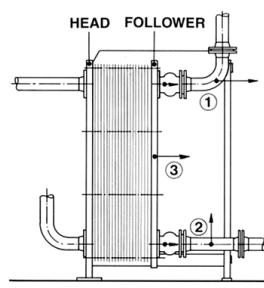

Fig. 12
Flanged connections must be removable. Fig. 12 shows a correctly connected unit. If necessary, a suitable filter should be installed on the fluid inlet. Insulating valves are also recommended on all connections. Thermometers, pressure gauges etc. should be used as required for monitoring the plate heat exchanger performance.
3.2.3) CORRECT PIPE MOUNTING (Fig. 12)